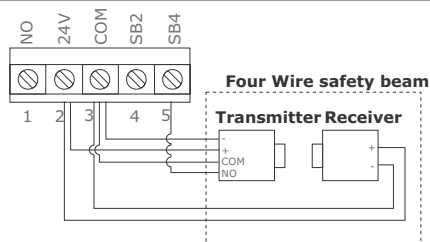

Figure 14B
- b. CENTURION i5 or equivalent four wire Safety Beams (Figure.14B)